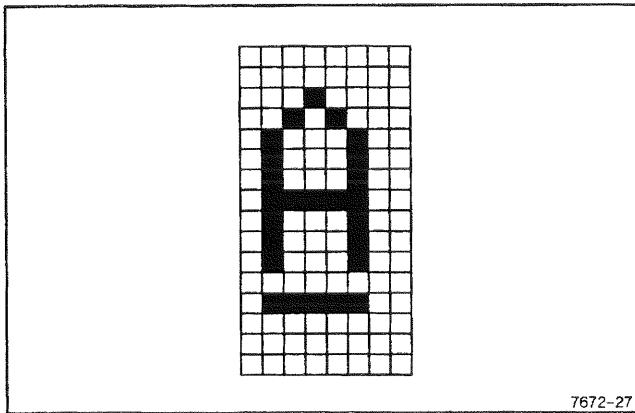

Figure 3-9. Character pixel arrangement.
**MIXER OPERATION.** The readout system displays text in a pixel-type representation. For example, an underlined letter "A" may be represented as in Figure 3-9. Blackened spaces in the illustration denote a displayed pixel.